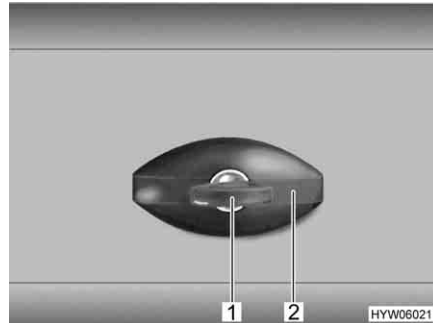

Fig. 64 Flap lock, elliptical-shaped, closed
- Insert key into locking cylinder (Fig. 64,1) and turn a quarter turn in an anti-clockwise direction. The lock handle (Fig. 64,2) snaps out.